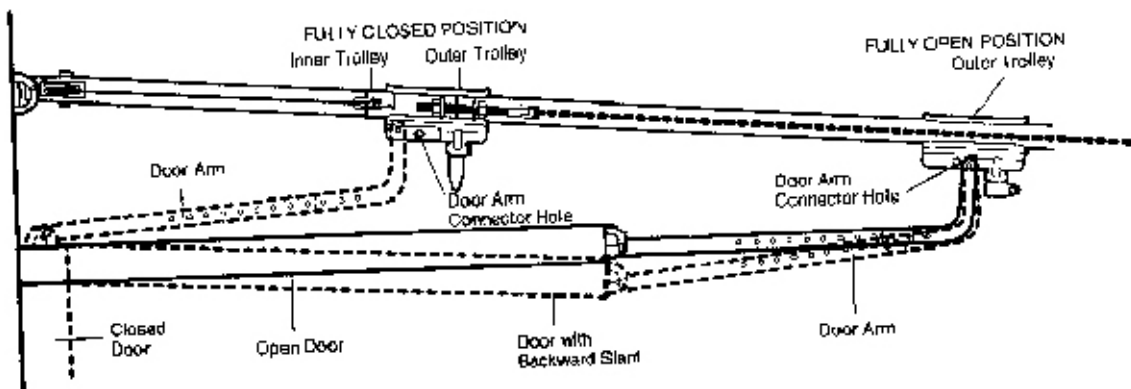

Figure 5
2. Adjustment procedures, Fig. 5: